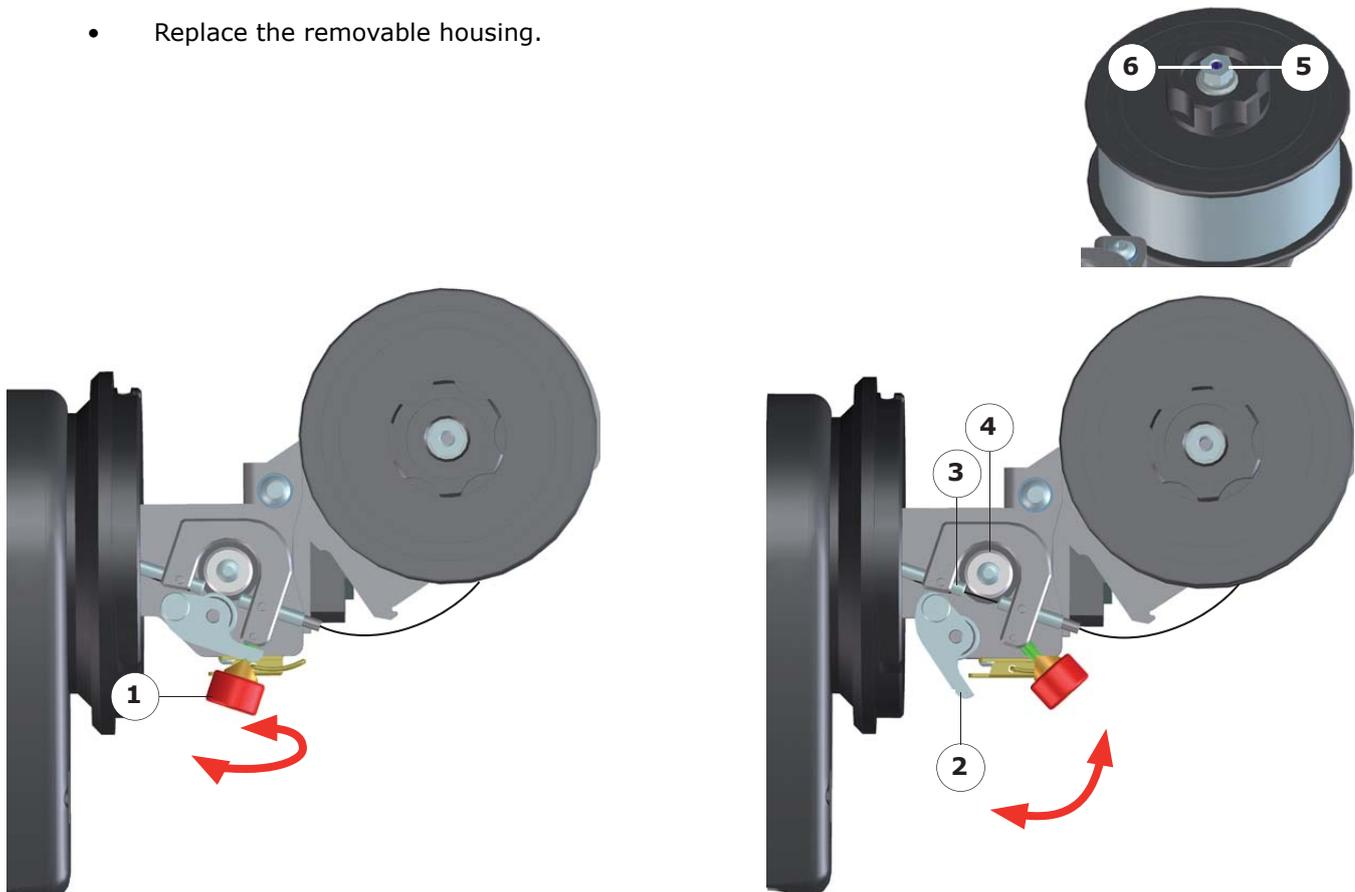

Fig.5.17 - Inserting the wire into the rotating wire feeder
- Unscrew and tilt the wire feeder mechanism clamping knob (Fig.5.17 - 1).
- Pivot the clamping arm (Fig.5.17 - 2).
- Insert the wire into the end-piece (Fig.5.17 - 3) of the wire feeder output sheath.
- Replace the clamping arm taking care that the wire is positioned in the groove of the roller for wire (Fig.5.17 - 4).
- The spool brake may be adjusted by adjusting the calibration nut (Fig.5.17 - 5) and setting the position using the locking screw (Fig 5.17 - 6) as required. Excessive tightening could cause the wire to feed incorrectly. Insufficient tightening could allow the spool to rotate after the wire feeder has come to rest.